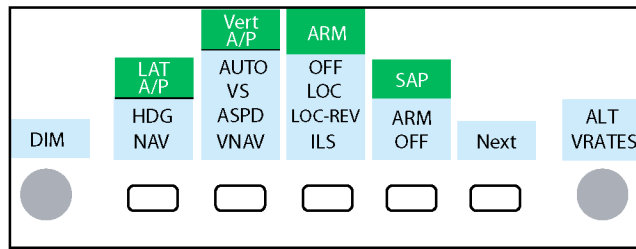

Figure 2.2 Menu — Output to Autopilot.
- 1 In Figure 2.2 highlight [HDG] and [VNAV].
- 2 In Figure 2.2 choose [NAV] and [VNAV] which will output the GPS course data and the Altitude bug data to the Autopilot.
- 3 In Figure 2.2 choose NAV which will output the SL-30 left, right course data. Choose [VNAV] which will enable the altitude bug.
- 3 In Figure 2.2 highlight [HDG] and SAP [ARM] then exit the menu
From Figure 2.2 Press [NEXT]
- 3 Figure 2.2 highlight [HDG], [VNAV], [ILS] and [Off] SAP